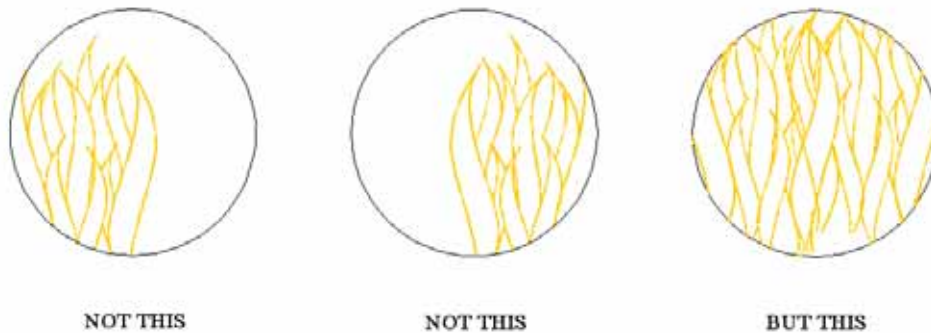

Figure 4 - Flame View
2. The detector should have an unrestricted view of the flame as far as possible. Physical obstructions such as air register blades, spin vanes, or other hardware should not fall within the detector's line of sight as shown in Figure 4.